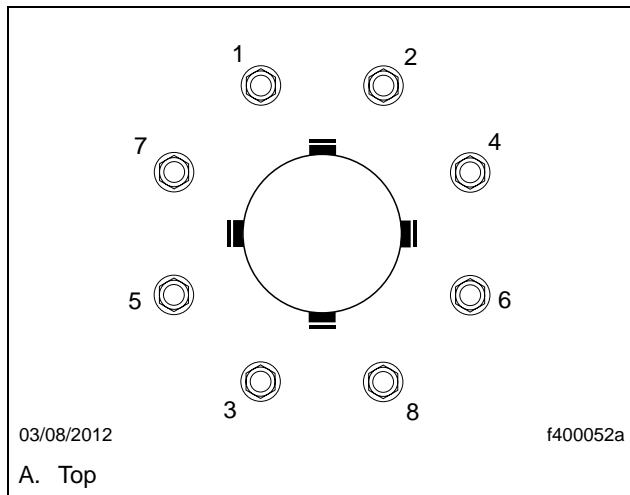
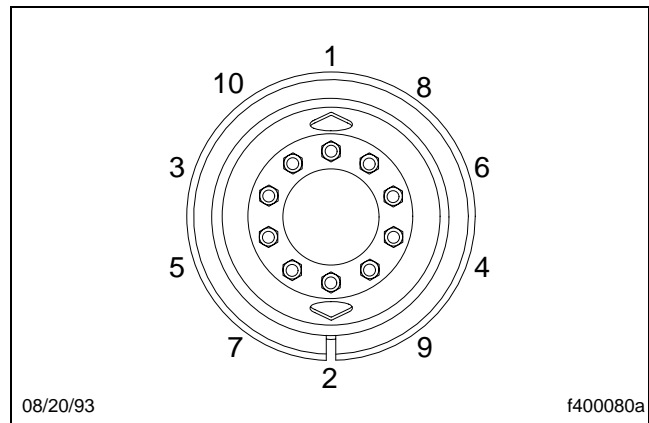

Fig. 35, 8-Stud Disc Wheel Tightening Sequence
Fig. 36, 10-Stud Disc Wheel Tightening Sequence
6. Install and hand-tighten the remaining two-piece flange nuts. Tighten the nuts 50 lbf·ft (68 N·m) following the sequence in **Fig. 35** or **Fig. 36**.
8. Following the sequence in **Fig. 35** or **Fig. 36**, tighten the two-piece flange nuts 450 to 500 lbf·ft (610 to 678 N·m).
Too little wheel nut torque can cause wheel shimmy, wheel damage, stud breakage and extreme tire tread wear. Too much wheel nut torque can break studs, damage threads and crack discs in the stud hole area. Use the specified torque values and follow the tightening sequence in Fig. 35 or Fig. 36.